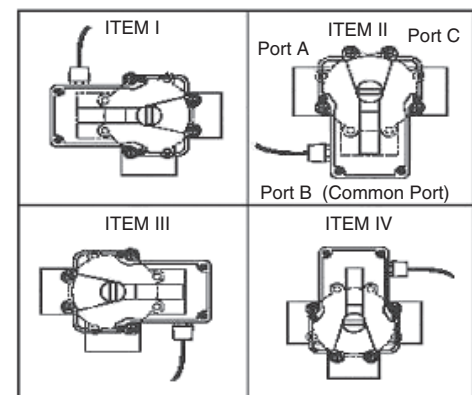

Figure 3. Mounting Positions
5. Rotate the actuator until the actuator posts line up with the four holes so it matches one of the mounting positions shown in Figure 3. See table below for descriptions of mounting options.
**Standard Actuator Mounting** - The main body of the actuator is over port B as shown in Item II of Figure 3.
The actuator can also be mounted on top of a valve in four different positions as shown in Figure 3. Depending on the plumbing of the valve and mounting position of the actuator, the cams inside the actuator may have to be reset. (See next section.)